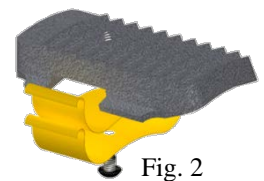

Fig. 2
**NOTE4**: Install two (2EA) springs per slip (Fig. 2).